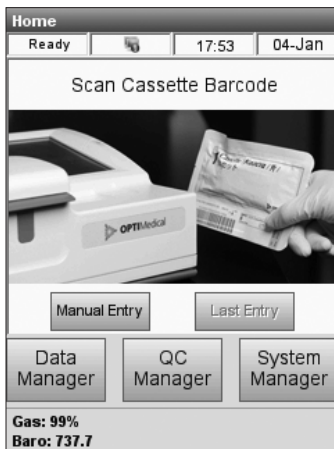

Fig. 7-27 Ready screen
- The analyzer will initiate a purge of the system, which will be indicated by a progress bar displayed on the screen, and will then return to the main screen (Fig. 7-27).